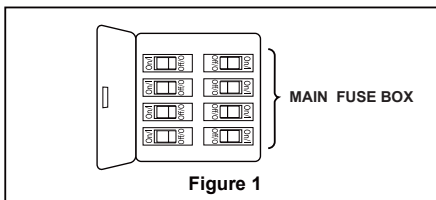
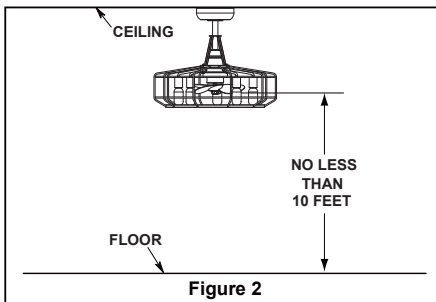
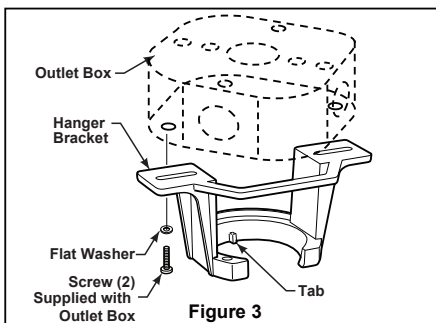

Figure 1
Figure 2
Figure 3
Your new ceiling fan will require a grounded electrical supply line of 120 volts AC, 60 HZ, 15 Amp Circuit. Electrical code requires use of a fan-rated outlet box to support the extra weight and motion associated with a ceiling fan. A fan-rated box will be labeled as such and typically supports up to a 70lbs ceiling fan. Fan-Rated Outlet Boxes vary in ratings and design. Ensure the ratings of your ceiling fan outlet box meet the requirements for the ceiling fan being installed. Figure 1, Figure 2 and Figure 3 depicts different structural configurations that may be used for mounting the outlet box.
Low-profile use (Figure 1)
Deep-profile use (Figure 2)
Brace use (Figure 3)
1. Remove the hanger ball portion from the downrod/hanger ball assembly by loosening the set screw in the hanger ball until the ball falls freely down the downrod. Remove the pin from the downrod, then remove the hanger ball. Retain the pin and hanger ball for reinstallation in Step 9. (Figure 1)
2. Remove the hairpin clip and clevis pin from the bottom of the downrod. Retain the pin and clip for reinstallation in Step 4. (Figure 2)
3. Loosen the two set screws and locking nuts in the downrod support of the motor assembly. Route the black, white and blue wires through the downrod. (Figure 3)
To avoid possible fire or shock, be sure electricity is turned off at the main fuse box before hanging. (Figure 1)
The fan must be hung with at least 10' of clearance from floor to blades. (Figure 2)
1. Securely attach the hanger bracket to the outlet box (not included) using the outlet box screws and washers supplied with the outlet box. (Figure 3)
1. To set the code on receiver unit, slide dip switches to the same positions as set on the remote. (Figure 1)
To avoid possible electrical shock, be sure electricity is turned off at the main fuse box before wiring. (Figure 2)
2. Slide the receiver into the hanger bracket before wiring as shown in figure 3.
2. Securely attach and tighten the canopy screw cover over the shoulder screws in the hanger bracket utilizing the key slot twist-lock feature. (Figure 2)
- 2.** Restore electrical power to the outlet box by turning the electricity on at the main fuse box. (Figure 2)
- 3.** To make fan operational, install 23A/12V battery (included) in hand-held remote transmitter, with fan power off. Then follow the remote code setting process. (If not used for long periods of time, remove battery to prevent damage to transmitter). Store the remote away from excessive heat or humidity. (Figure 3)